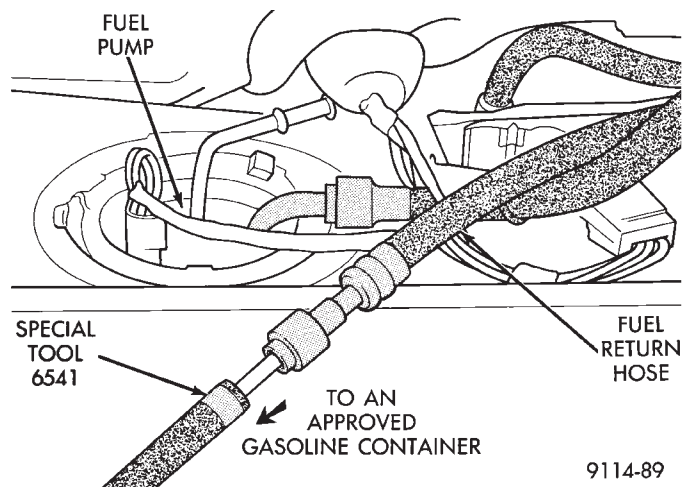

Fig. 6 Fuel Pressure Return Test
- Connect Fuel Pressure Test Adapter 6541 to the return line (Fig. 6). Place the other end of adapter 6541 into an approved gasoline container (minimum 2 gallon size). All return fuel will flow into container.
- (c) Remove the fuel return line hose from the fuel pump at fuel tank. Connect Fuel Pressure Test Adapter 6541 to the return line (Fig. 6). Place the other end of adapter 6541 into an approved gasoline container (minimum 2 gallon size). All return fuel will flow into container.